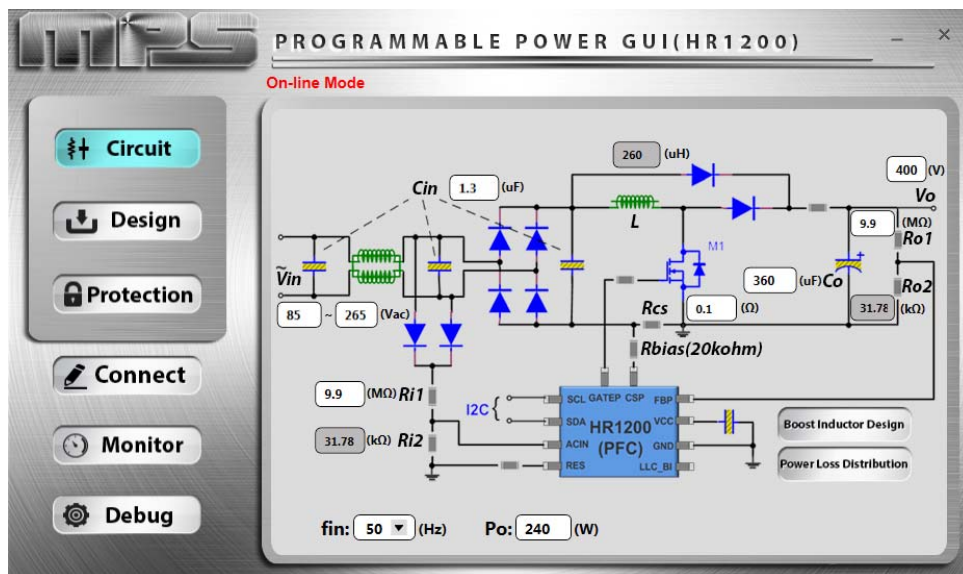

Figure 18: Main Interface in Online Mode
B. Mode Recognition: In this case, VCC is **above 8V**, and the IC enters online mode (see Figure 18). Only the fixed VCC value is sent to the EVB.